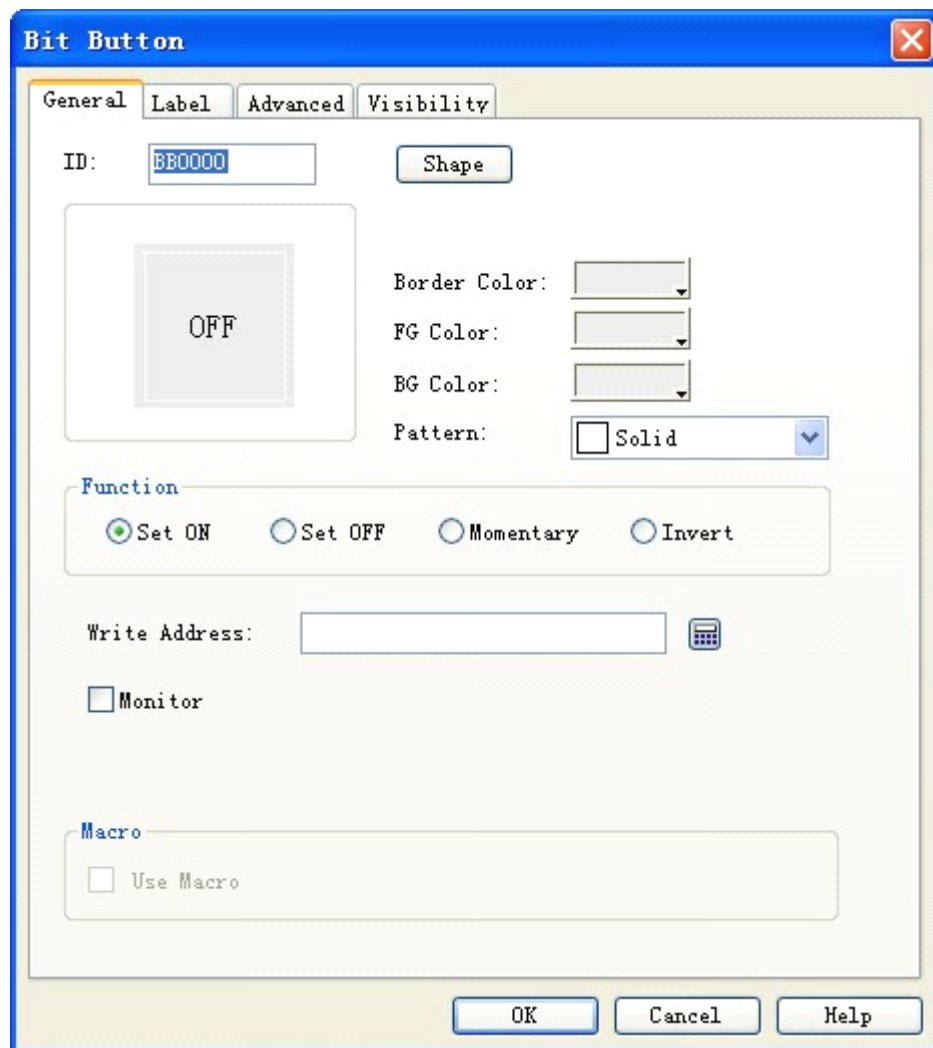

Figure 4-52: Bit Button dialog
1. Click Bit Button icon  in the tool bar, and then a dialog will pop up for setting of bit button properties. See Figure 4-52.